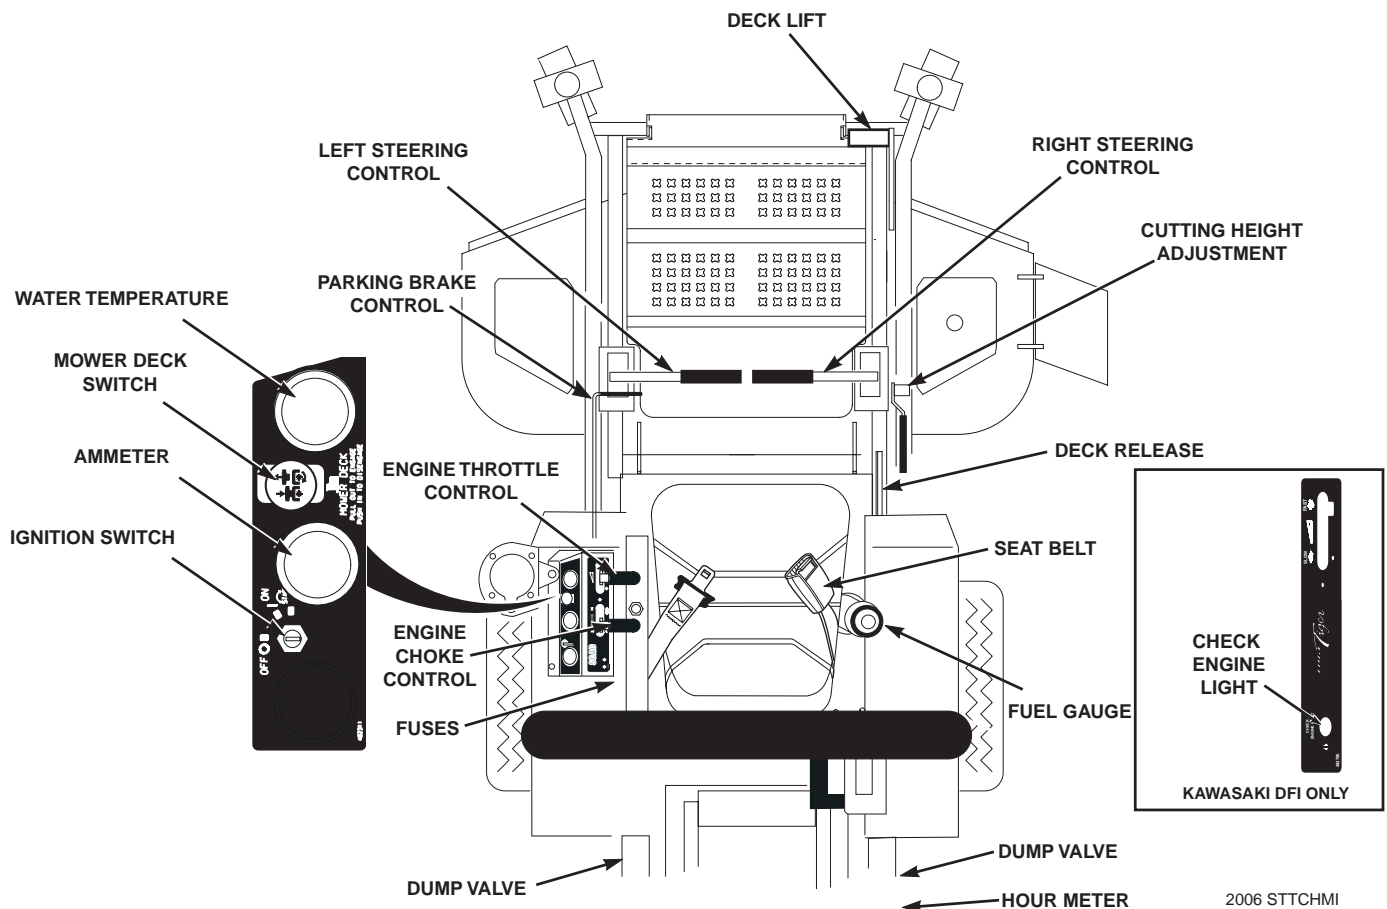

Figure 4-1. Controls and Instruments
1. **Ignition Switch (Figure 4-1).** The ignition switch is used to start the engine and has three positions; OFF, ON, and START.
2. **Mower Deck Switch (Figure 4-1).** Used to engage and disengage the mower drive system. Pulling up on the switch will engage the deck drive. Pushing down on the switch will disengage the deck drive.
3. **Engine Choke Control (Figure 4-1).** Used to start a cold engine. Not used on the 29DFI.
4. **Engine Throttle Control (Figure 4-1).** Used to control the engine speed. Pushing the lever forward increases engine speed. Pulling the lever back decreases engine speed. Full back position is the IDLE position. Full forward is the cutting position.
5. **Ammeter (Figure 4-1).** Indicates the condition of the charging system. When the engine is running the needle should be toward the positive end of the meter. If the needle is toward the negative end of the meter, this indicates a discharge condition and the machine should be taken in for service.
6. **Hourmeter (Figure 4-1).** Indicates the number of hours the engine has been operated. It only operates when the engine is running. Has preset maintenance reminders for engine and hydraulic system oil changes. Will start flashing scheduled maintenance 2 hours before preset time and continue flashing until 2 hours after. Automatically resets.
7. **Fuse Holders (Figure 4-1).** Two 20-amp fuses protect the mower's electrical system. To replace fuses, pull fuse out of the socket and install a new fuse.
8. **Left Steering Control (Figure 4-1).** Used to control the mower's left wheel when traveling forward or reverse.
9. **Right Steering Control (Figure 4-1).** Used to control the mower's right wheel when traveling forward or reverse.
10. **Parking Brake Control (Figure 4-1).** Used to engage and disengage the parking brakes. Pull the lever back to engage the parking brakes. Push the lever forward to disengage the parking brakes.
11. **Fuel Tank Gauge (Figure 4-1).** Indicates the amount of fuel in the fuel tank.
13. **Deck Lift Foot Lever (Figure 4-1).** Used to raise and lower the cutter deck. Push full forward to lock in the transport position.
14. **Cutting Height Adjustment (Figure 4-1).** Used to set the cutter deck at the desired cutting height.
15. **Deck Release Lever (Figure 4-1).** Used to lock the cutter deck in the transport position. Push the foot pedal forward and pull back on the release lever to release the cutter deck for normal mowing.
16. **Temperature Gauge (Figure 4-1).** Indicates the operating temperature of the engine. Used on mowers with the liquid-cooled engine only.
17. **Check Engine Light (Figure 4-1).** Indicates the operation of the engine sensors on the Kawasaki Digital Fuel Injection (DFI). Light will flash once at initial start up. If a problem occurs with a sensor on the engine, the light will flash a code. See your authorized Scag Dealer for diagnosis and repair.
18. **Seat Belt (Figure 4-1).** Used to secure the operator. Seat belt must be worn at all times when the ROPS is in the upright and locked position.
19. **Seat Hold Down Release Latch (Figure 4-1).** Located behind the seat. Used to secure the seat in the operator's position. Release the latch to gain access under the seat.